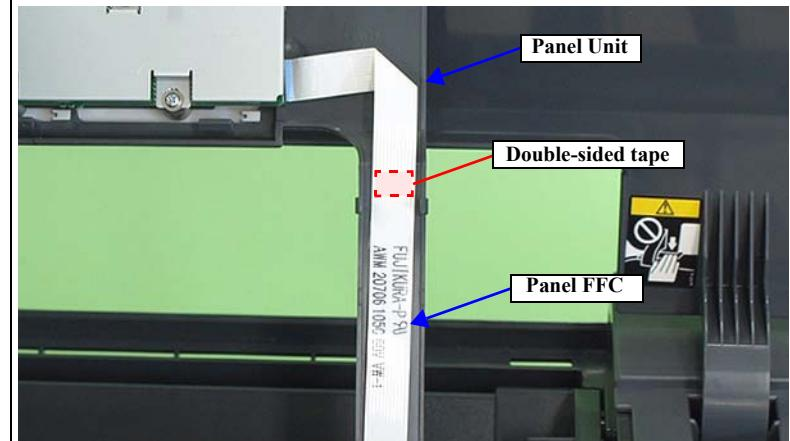

Figure 3-19. Securing the Panel FFC
- Route the Panel FFC correctly as shown in Figure 3-19.